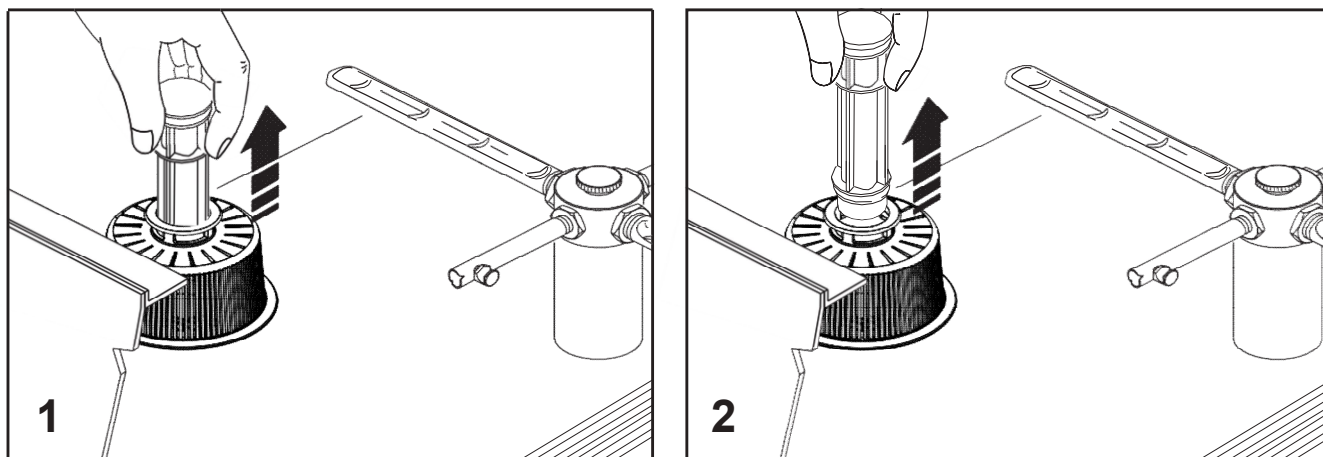

Fig. 16
2. remove the overflow pipe (fig. 16)
3. if the dishwasher is fitted with a drain pump, before switching it off, remove the overflow pipe (fig. 16) and start the pump using the DRAIN PUMP BUTTON (see par. 4.6). At the end of draining, the dishwasher switches off. Disconnect it from the electrical network.